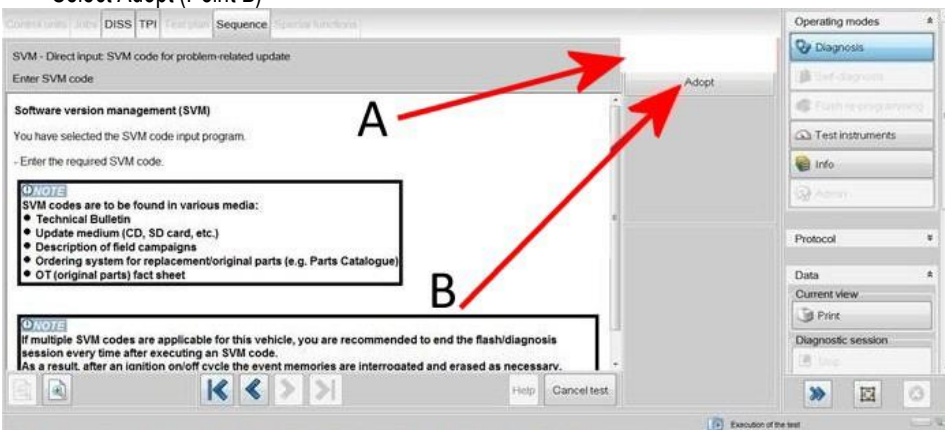

Figure 3
2) Referring to Figure 3 (Point A) enter SVM code **4V1RDOOR02**